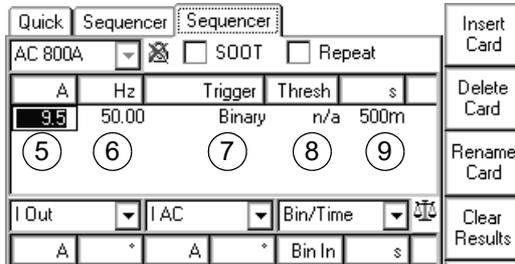

Figure 9-4: Step 2 - Set the state parameters
⑤ Turn the handwheel to set the focus onto the states table's first cell; in Figure 9-4 above it is the output current. Then press the handwheel. The cell turns into an entry field. Now set the output current value of your choice by turning the handwheel, or use the number keys of the CPC 100 soft-touch keyboard. Press **Enter** or the handwheel to acknowledge your setting and move to the next table cell by turning the handwheel.